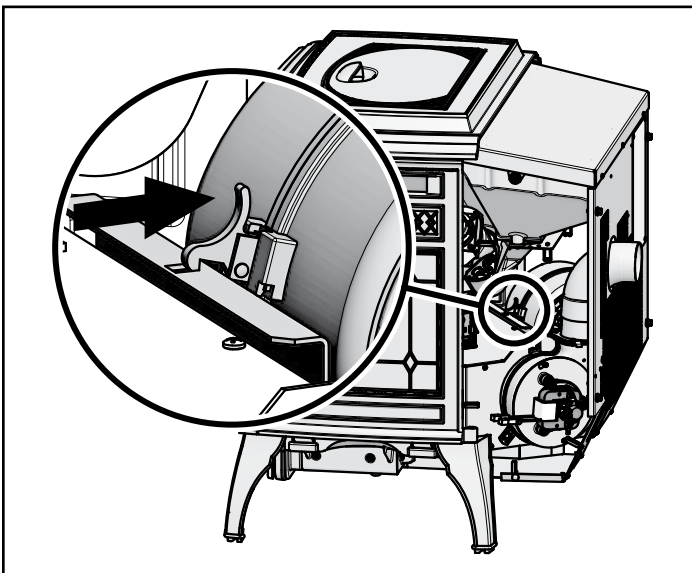

Figure 22.1
2. Remove the left side panel by loosening the 2 screws using a Phillips head screw driver or wrench (**Figure 22.1**).
5. Reach behind the blower and release the latch by pushing the top of the latch towards the blower (**Figure 22.1**).
8. When the blower is properly positioned the latch will engage the notch to hold the blower in place (**Figure 22.1**).